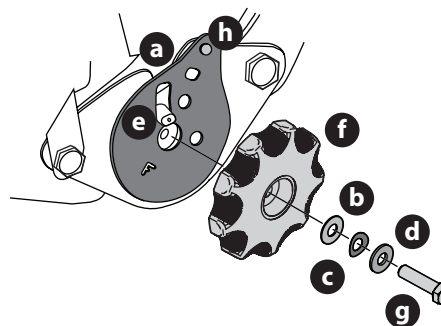

Fig. 13
7. Remove the seat tilt knob assembly from the bag and install (Fig. 13).
NOTE: Be sure to orient the recliner plate (a) and install the plastic washer (b), spring washer (c) and metal washer (d) (Fig. 13). The plastic washer is on the inside.
8. Slide the recliner bearing plate (a) onto the recliner pin (e) (Fig. 13).
10. Use a wrench to hand tighten the hex screw (g) until the recliner knob (f) is difficult to turn (Fig. 13).
11. Gradually loosen the hex screw (g) until the recliner knob moves freely. Do not loosen the hex screw (g) more than one full turn (Fig. 13).
12. Securely install the 1/4" nut onto the clinch-stud (h) and rotate the recliner knob to check the operation of the seat (Fig. 13).